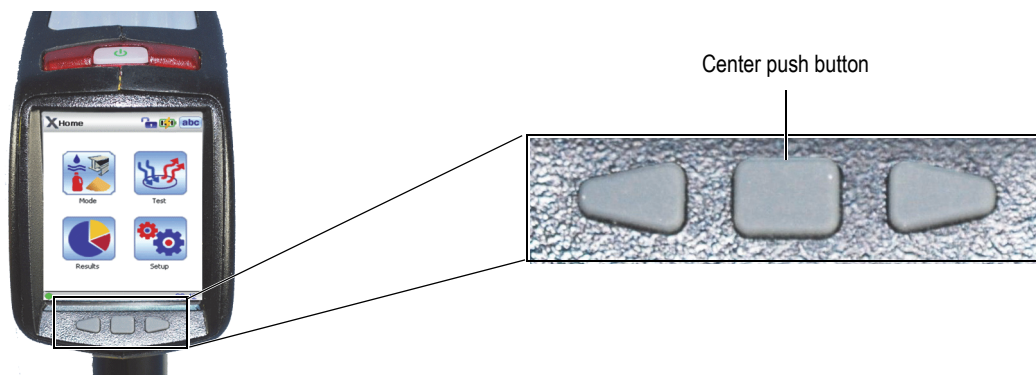

Figure 4-12 DELTA special function push buttons
4. Press and hold the instrument's center push button for the duration of the test (see Figure 4-12 on page 73).